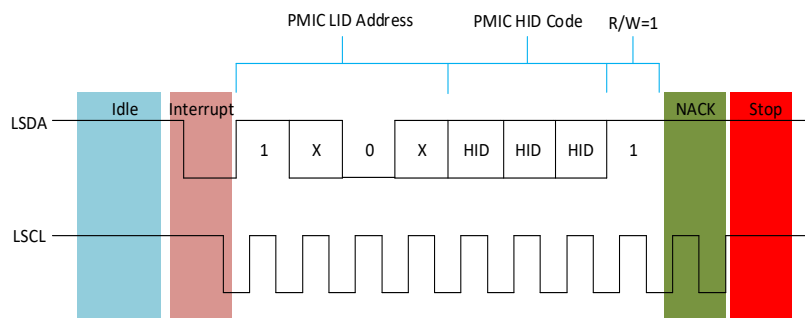

Figure 26 — PMIC Requests Interrupt; Host NACK followed by STOP
- The Host sends NACK on the 9th bit as shown in Figure 26 followed by a STOP command. In this case, the PMIC device does not transmit the IBI payload and waits for the next opportunity to request an interrupt. At this point, though Host sent an NACK, it does have a knowledge of which PMIC device sent the IBI request. The PMIC device retains the IBI status flag (Table 96, “Register 0x0A” [1] = ‘1’) and Pending Interrupt Bits [3:0] = ‘0001’